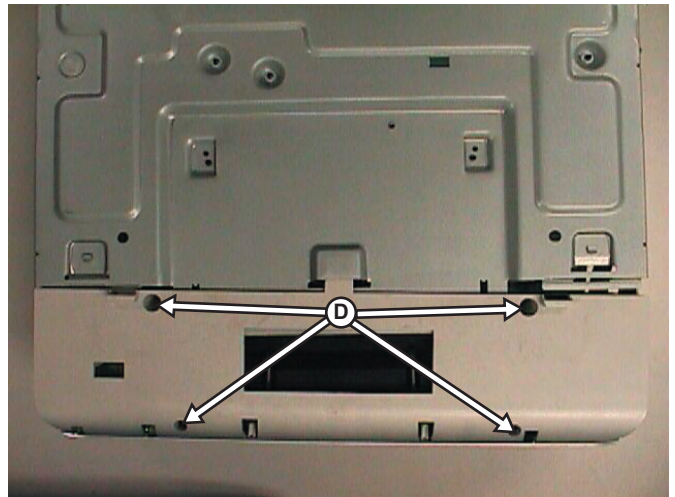

Figure 4-4
- 3) Loosen 4 screws (See Figure 4-4) to remove the Front Assy.